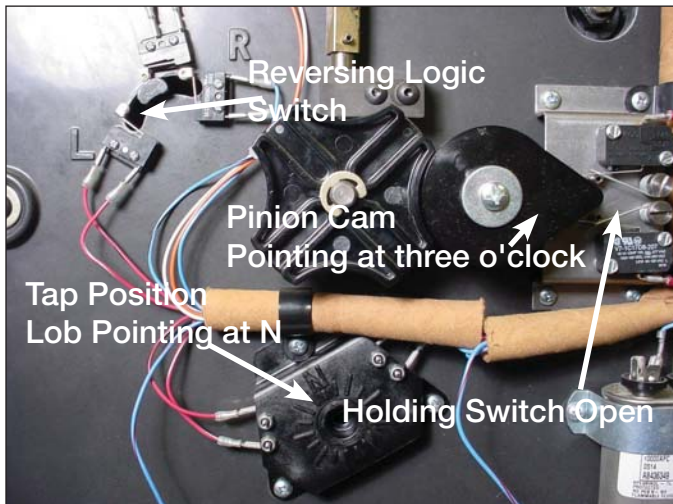

Figure 44.
13. Check and set the tap changer for neutral position. The tap changer can be set for any tap position by rotating the pinion cam in either the clockwise or counter clockwise direction. For rotating to the neutral position, the reversing logic switch actuator must be in the center with the neutral switch arm depressed. The tap position lobe must have the pointer pointing at N. The pinion cam point is pointing at the three o'clock position over the holding switch lever arm. The holding switch is open. See Figure 44.